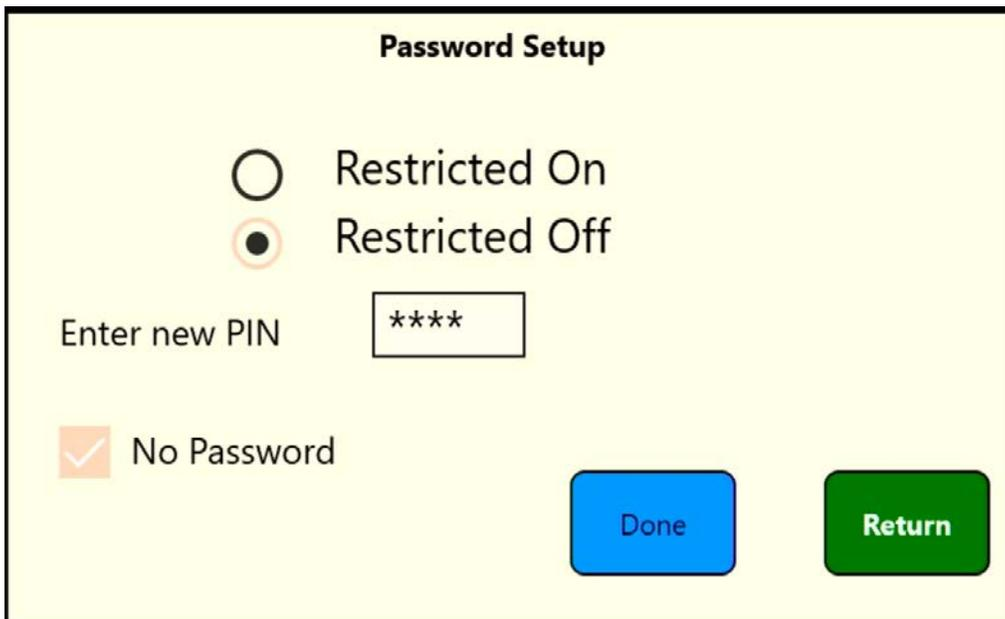

Figure 86
14. Press the OK button (Figure 86)
15. Uncheck No Password (Figure 86)
7. Press Restricted ON or Off to the desired mode (Figure 86)
8. Now press (Done) (Figure 86)